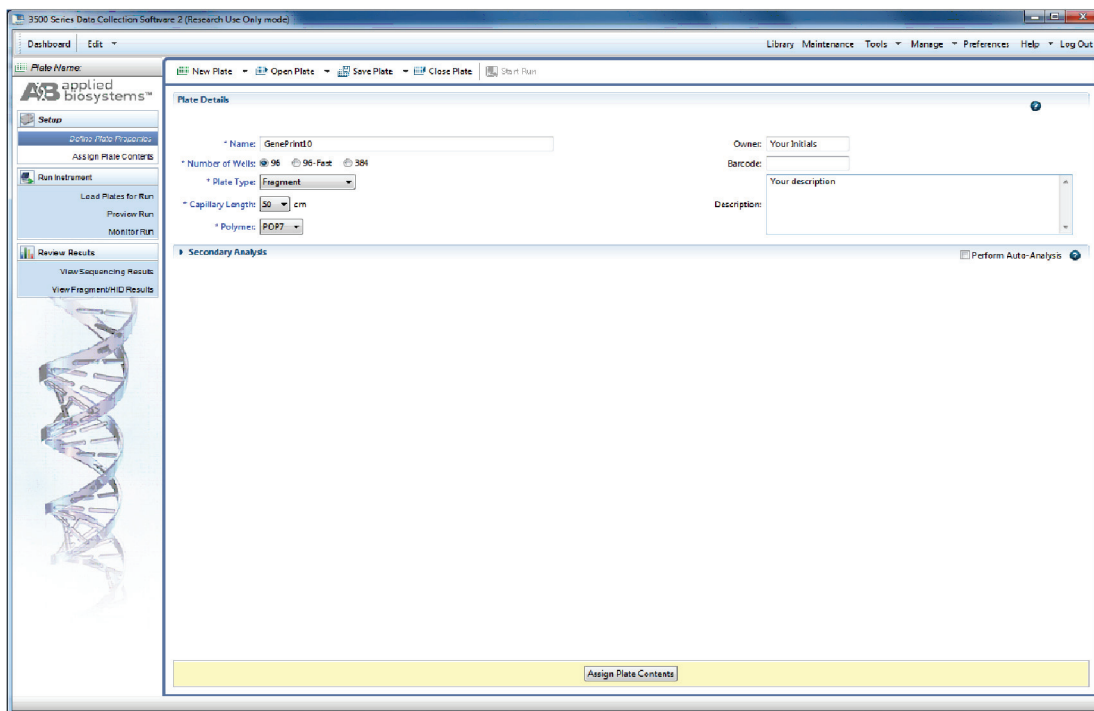

Figure 12. Defining plate properties.
- Assign a descriptive plate name. Select the Plate Type “Fragment” from the drop-down menu (Figure 12). Select the appropriate capillary length and polymer.